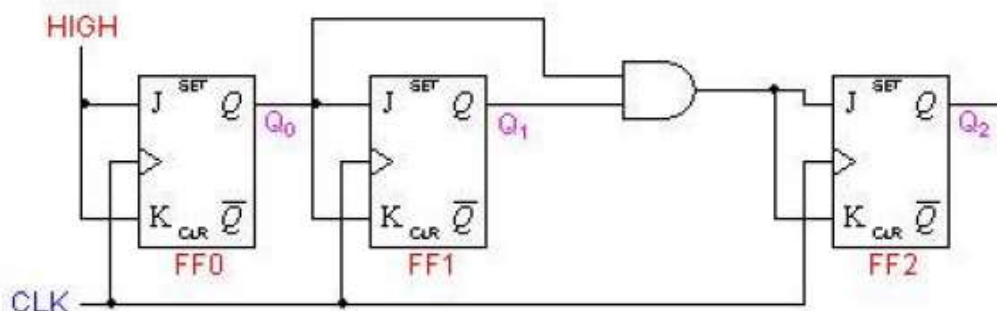

Figure 1:- Logic Diagram of 3-bit synchronous counter
1. Construct the logic circuit as shown in figure 1.